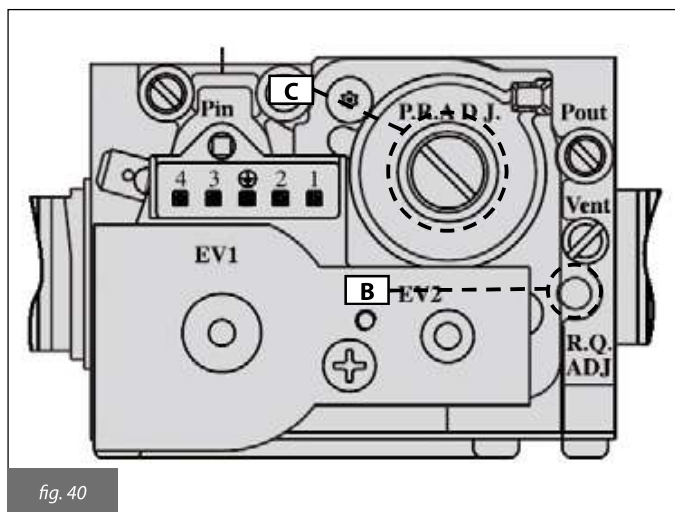

fig. 40
- Set the flue (CO₂) rate by turning the ratio adjuster **B** (fig. 40) and ensure that reading falls within the limits of table 22. Let boiler flue cleaning function on and continue with the next point "Minimum heating output adjustment".
- Set the flue (CO₂) rate by turning the offset adjuster **C** (fig. 40) and ensure that reading falls within the limits of table 22.